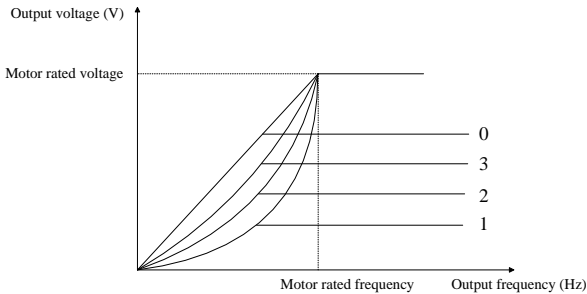

Figure 4-2 Motor V/F curve
- When P01.26 is 0, user can define the different fold lines by setting of P02.01~P02.02. The default V/F is a straight line, as the line 0 in Figure 4-2.
- When P01.26 is 1, it is a 2.0 law ramp, curve1 in figure 4-2.
- When P01.26 is 2, it is a 1.7 law ramp, curve2 in figure 4-2.
- When P01.26 is 3, it is a 1.2 law ramp, curve3 in figure 4-2.